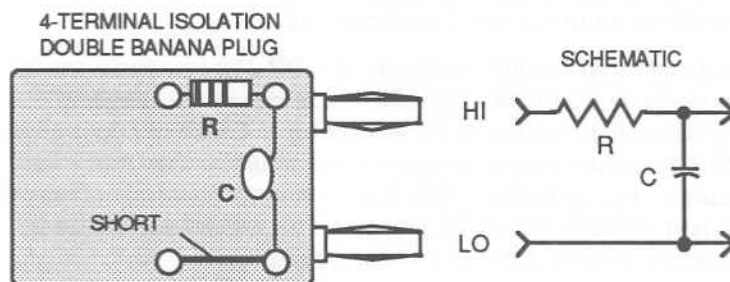

Figure 4-9. RC Low-Pass Filter
- Although the frequency input circuit has some hysteresis to reject noise, you should filter the input when looking at noisy, low frequency signals. An RC low-pass filter with a corner frequency above that which you are measuring can be built onto a four terminal isolation banana plug. See Figure 4-9.